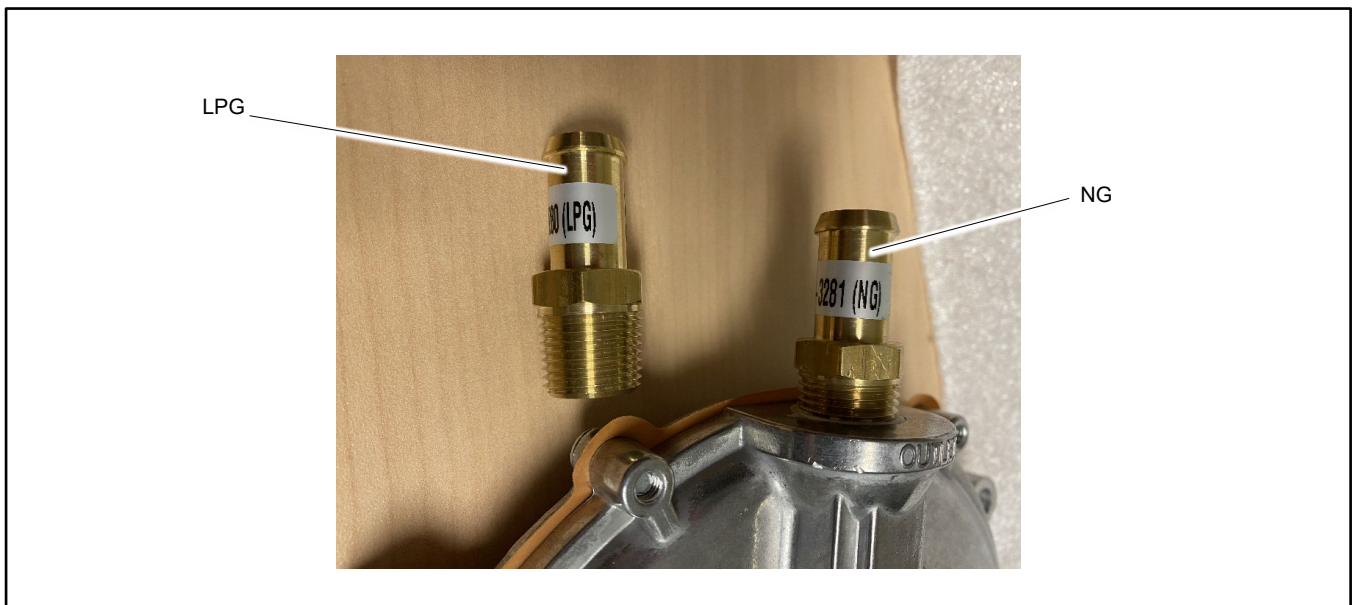

Figure 18 NG and LPG Fuel Jets
For natural gas (NG) and LPG, fuel jet fittings are used in the fuel line. The fittings are labelled for NG and LPG. See Figure 18.